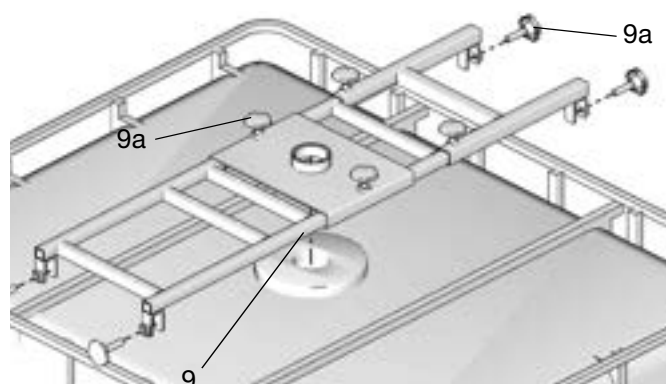

FIG. 8
1. Install the IBC top bracket (9) on the IBC tank (FIG. 8).
2. Slide the top bracket (9) to the center of the IBC tank aligning the hole in the center of the bracket with the hole in the top of the tank. Secure the bracket (9) in place by tightening the 6 knobs (9a) securely (FIG. 8 and 9).